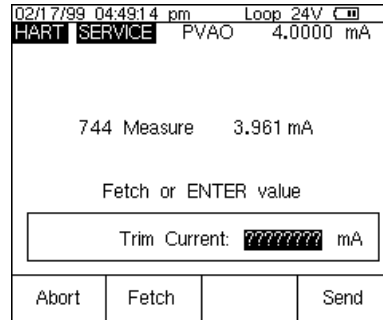

Figure 15
- Select **Output Trim** and press **ENTER**. The value of the primary variable (PVAO) is in the upper right corner of the display. (Figure 15). This is normally a 4 mA signal. The mA value, as constantly measured by the Fluke 744, is in the center of the display. Press the **Fetch** softkey to load the measured mA value. Press **Send** to send the value to the 3144 to trim the output section for the 4 mA value. Press **Continue** for the 20 mA trim and repeat this step.